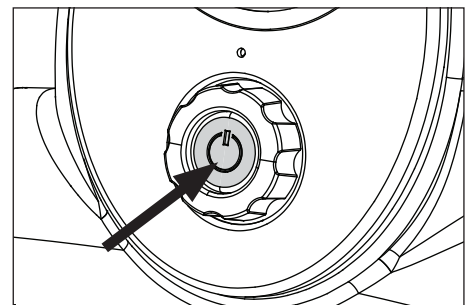

Figure 6 - Power Button
5. Press power button. (See Figure 6).
5. Press power button. (See Figure 6). Unit will turn off automatically when set pressure is reached.